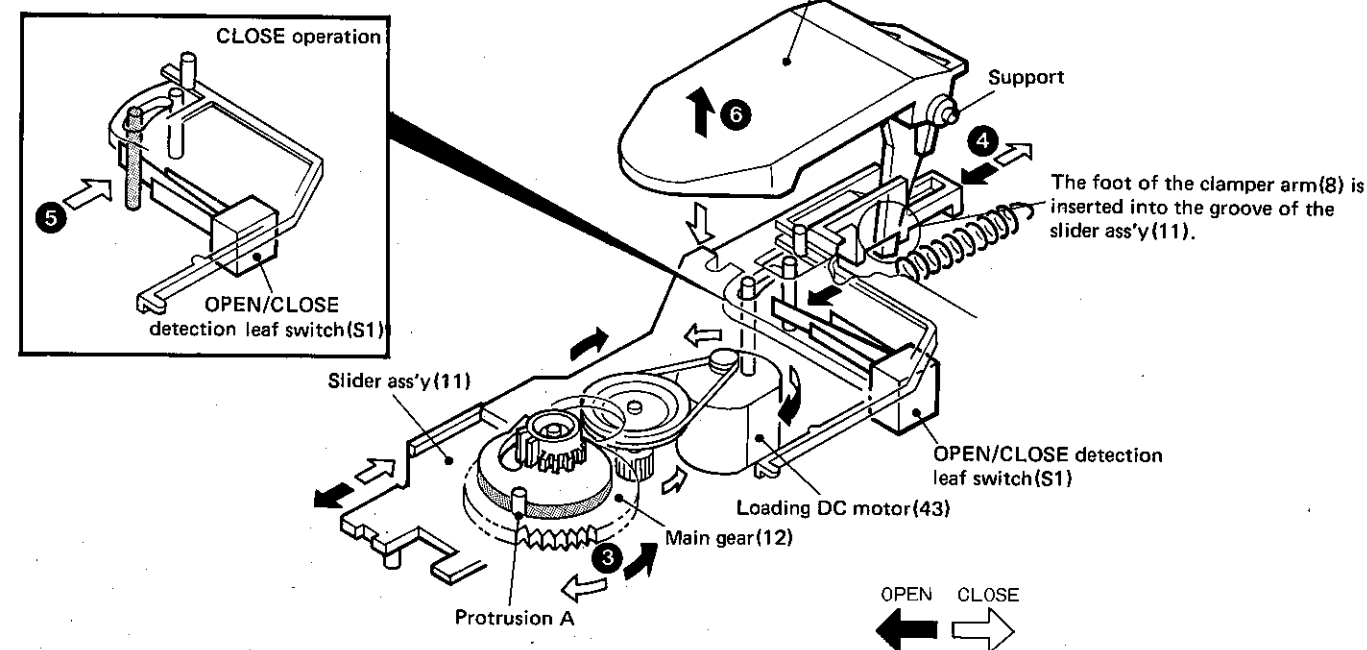

Fig. 3 Clamper arm operation
Fig. 3 shows the movement of protrusion A of the slider ass'y(11) in the direction of the black arrow ④ until the tray is completely opened.